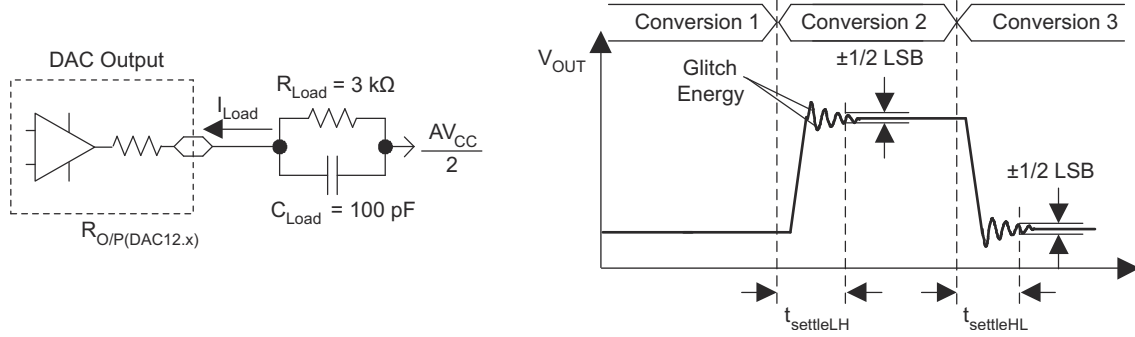

图 8-45. Settling Time and Glitch Energy Testing
- (1) R_{Load} and C_{Load} are connected to AV_{SS} (not AV_{CC}/2) in 图 8-45.
- (2) Slew rate applies to output voltage steps ≥ 200 mV.